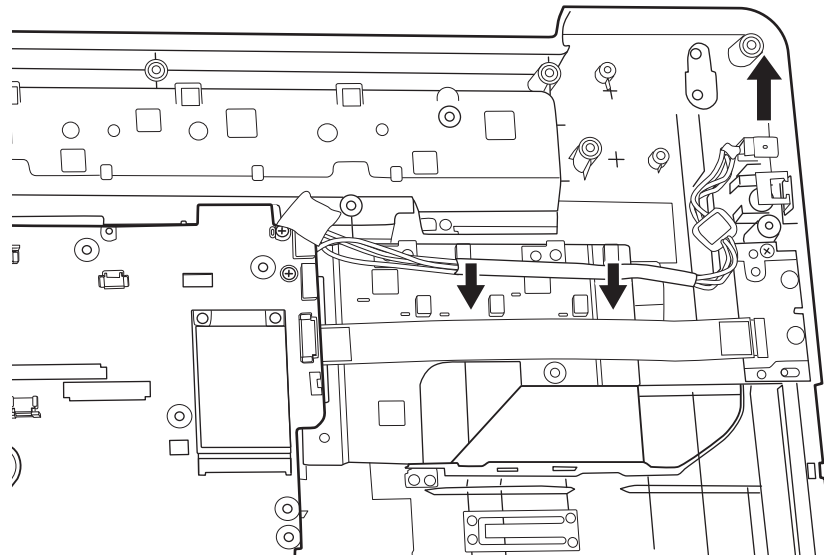

Figure 4.23 Removing the DC IN connector and cable
2. Remove the DC IN connector and cable out of the logic lower assembly from right to left, as shown in Figure 4.23.